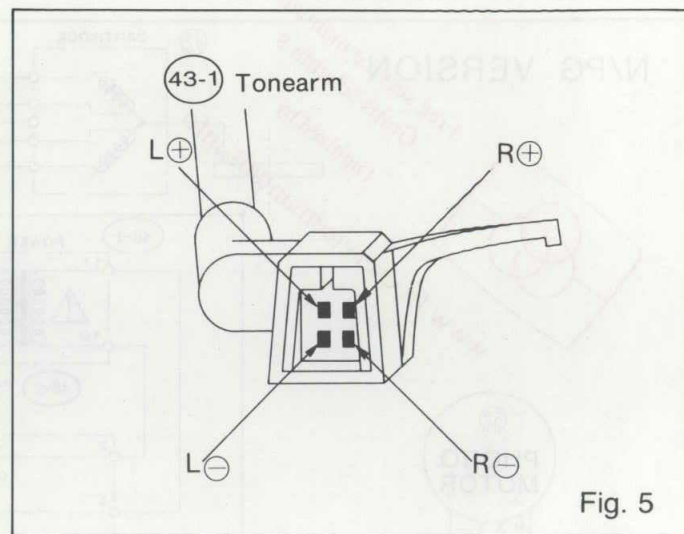

Fig. 5
– Removing Cartridge (42), touch the upper two terminals (L \ominus and R \oplus) at the end of tonearm (43-1) with a metallic screwdriver and listen for the speaker to produce a humming noise (Fig. 5).